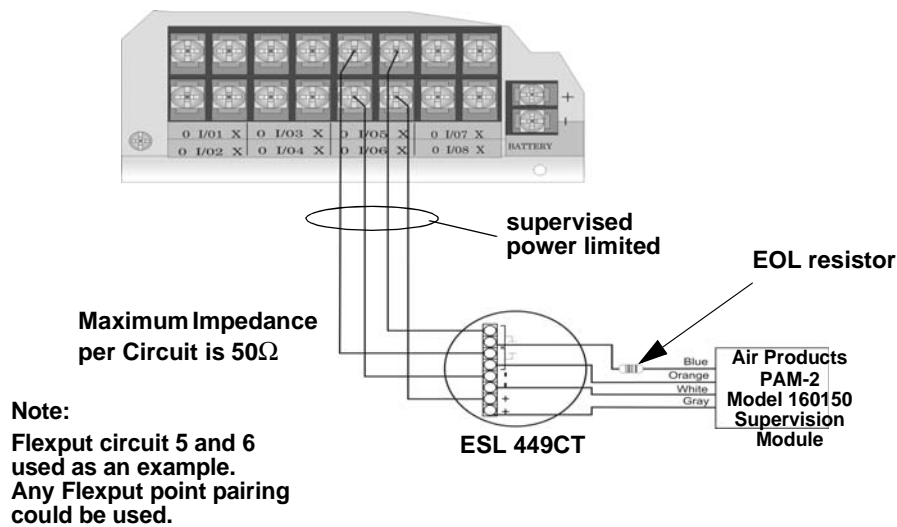
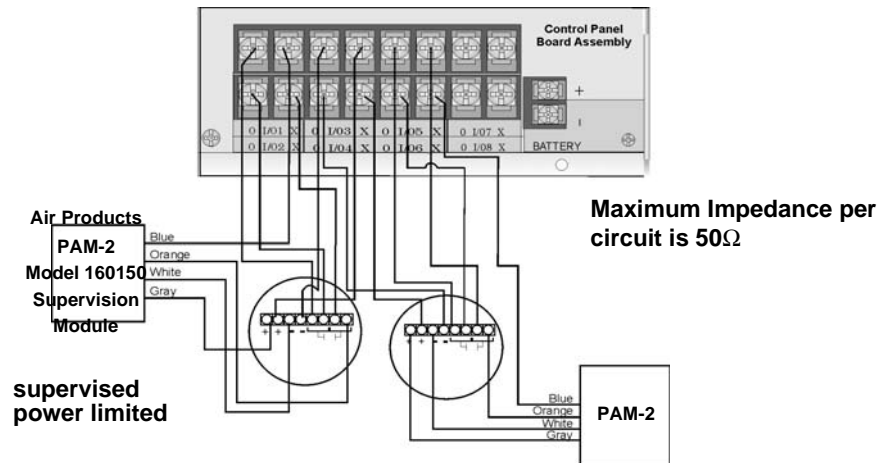

Figure 4-53 Class B 4-Wire Smoke Detector Connections
Figure 4-54 Class A 4-Wire Smoke Detector Connections
Any compatible UL listed four-wire smoke detector can be used with the control panel (see Appendix A for list of compatible smoke detectors). Figure 4-53 and Figure 4-54 illustrate how to connect a UL listed four-wire
Figure 4-53 illustrates how to install a 4-wire Class B smoke detector.
2. Each Class B loop input is paired with a unique power source as shown in Figure 4-53.
Note: In programming any point that uses multiple Flexput circuits, the lowest Flexput circuit number is used to refer to the circuit pair. For example, Figure 4-53 uses both Flexput circuit 5 and 6, so in programming it would be referred to as point 5.
Figure 4-54 illustrates how to install 4-wire Class A detectors. Conventions used for wiring 4-wire Class A loops:
- Smoke power is supplied to each Class A loop as shown in Figure 4-54.
Note: In programming any point that uses multiple Flexput circuits are always referred to as the lowest Flexput circuit number used. For example, Figure 4-54 uses Flexput circuits 1, 2, 3 together and 4, 5, 6 together. In programming (1, 2, 3) would be referred to as point 1, and (4, 5, 6) would be referred to as point 4.